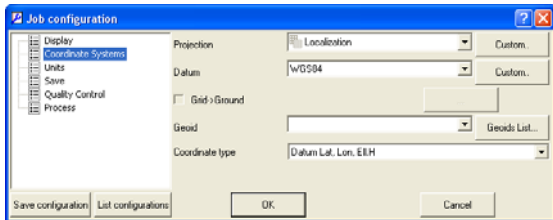

Figure 2-2. Job Configuration – Coordinate Systems
2. Click *Coordinate Systems* (Figure 2-2) and select the projection grid for the job.